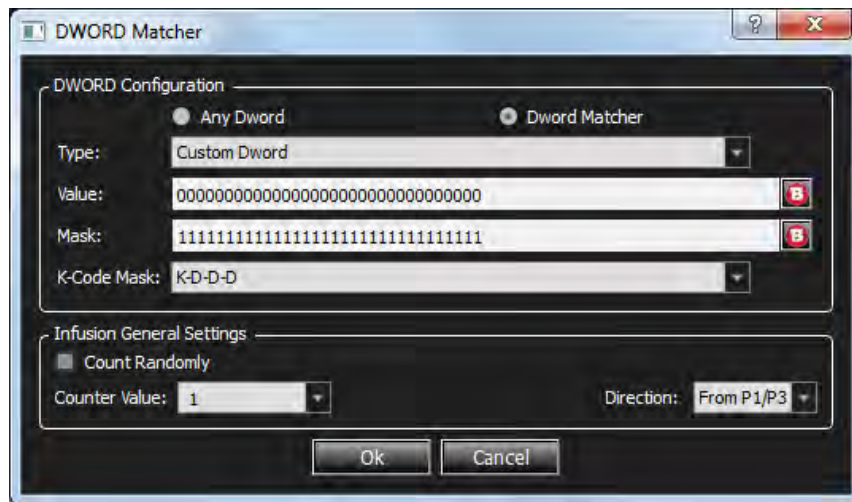

Figure 6.65: Adding an Event
3. Select **DWORD Matcher** in the Event panel and place it in the Global Rules panel (see Figure 6.65).